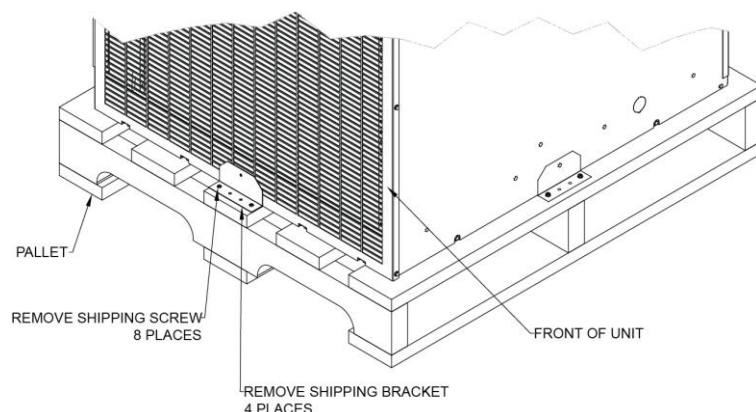
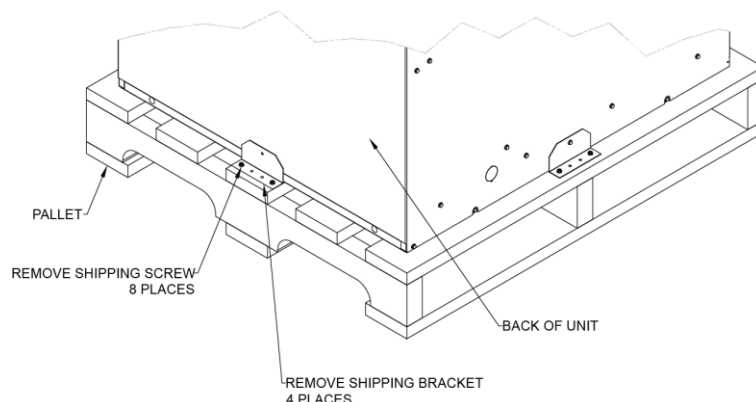

FIGURE 3 - Standard Packaging with Shipping Brackets - Front View
FIGURE 4 – Standard Packaging with Shipping Brackets - Back View
- 4) Ensure that the shipping brackets and screws are removed from the chassis section. Refer to **FIGURE 3 - Standard Packaging with Shipping Brackets - Front View** & **FIGURE 4 – Standard Packaging with Shipping Brackets - Back View** for more information.